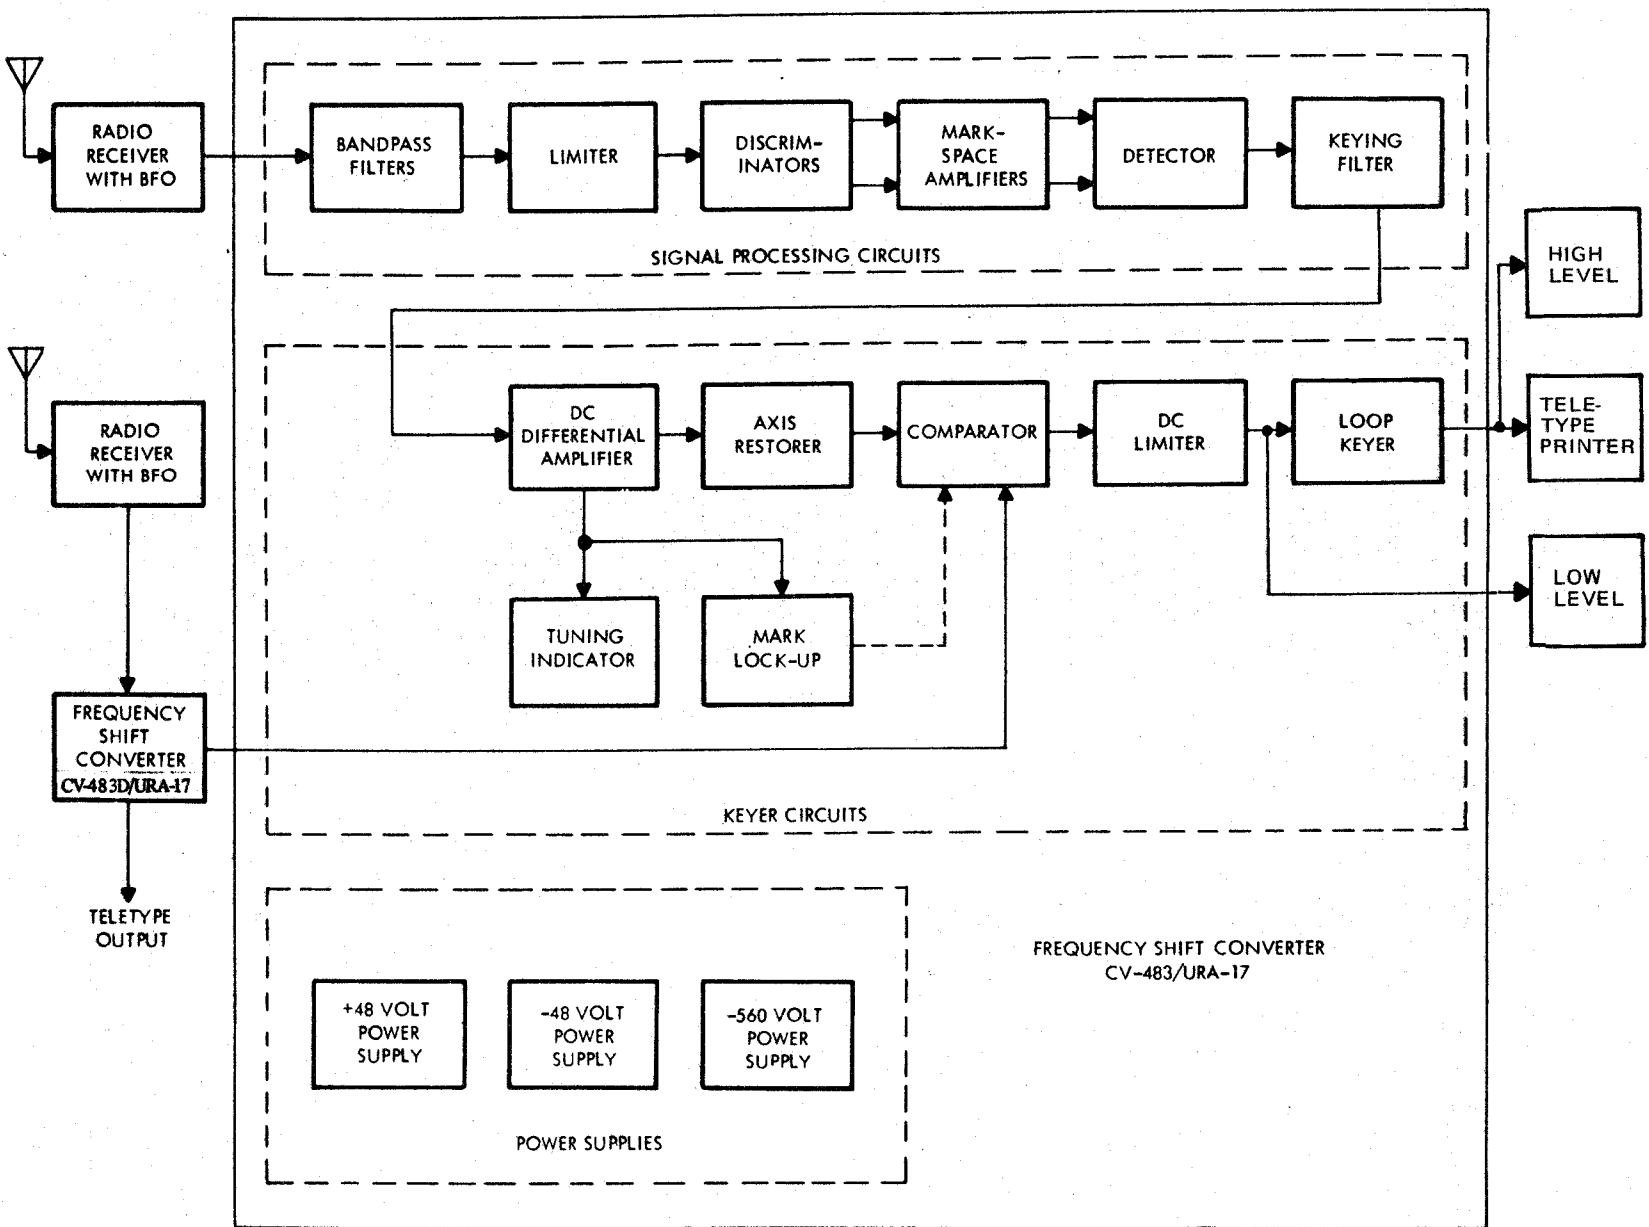

Figure 4-2. Comparator-Converter Group AN/URA-17D,
e. FUNCTION BLOCK DIAGRAM. - Figure 4-2 is a block diagram representing the principal functions
a. GENERAL. - Each converter is a single unit with the filters and transformers mounted around the sides of printed circuit boards. In the following paragraphs, the converter is covered as three functional sections: 1) signal processing circuits, 2) Keyer circuits, and 3) power supplies (see figure 4-2). Waveforms at significant test points are illustrated in table 5-5. Refer to the overall schematic, figure 6-5, during the detailed theory which follows.
This steady mark signal charges C17 in the axis restorer allowing no signal to be applied to the dc limiter. The mark lock-up, Q11, Q12, and circuit, provides a bypass around the axis restorer (shown as dashed line in figure 4-2) during these signal interruptions.